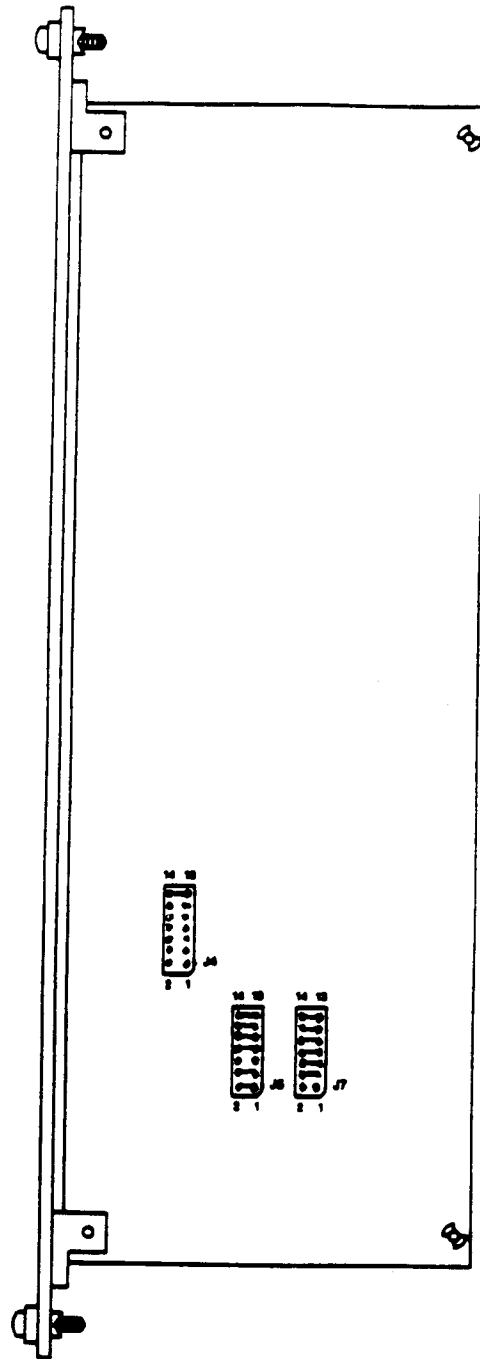

FIGURE 4-3. MVME702 Jumper Header Locations
4.2.2.1 MVME702 Standard VERSAdos Configuration. Figure 4-3 illustrates the jumper header locations of the MVME702 Disk Interface Module. Table 4-3 lists the MVME702 jumper settings required to operate VERSAdos with the MVME702. Refer to the MVME702 Disk Interface Module User's Manual (MVME702) to compare these settings with the factory-set configuration.